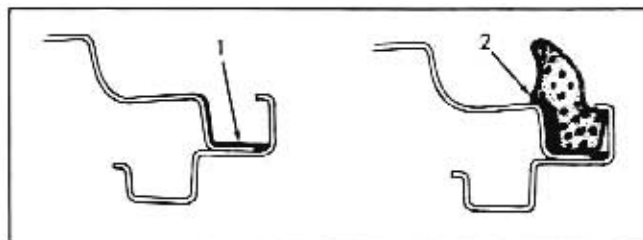

Fig. 10A-55 Cross Section of Rear Compartment Gutter and Weatherstrip
2. Open lid and check amount of engagement of striker with lock frame, as indicated by the compression of the clay. The striker impressions in the clay should be even on both sides of the lock frame, as indicated in Fig. 10A-54. Where required, loosen striker attaching screws; adjust striker sideways or up or down to obtain proper engagement, then tighten screws.